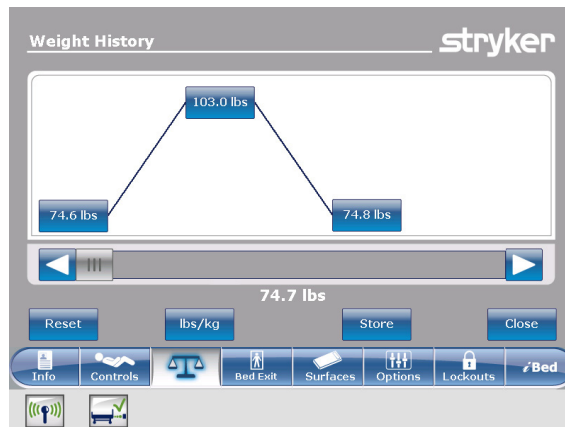

Figure 28: Weight history
To reset the stored weight histories, tap **Reset** (Figure 28 on page 51).
To change the displayed measuring unit, tap **lbs/kg** (Figure 28 on page 51).
To store the current weight reading, tap **Store** (Figure 28 on page 51).
To return to the **Scale** screen, tap **Close** (Figure 28 on page 51).
1. Tap a weight value in the weight history screen (Figure 28 on page 51). Each value displays the time and date of the measurement (Figure 29 on page 51).